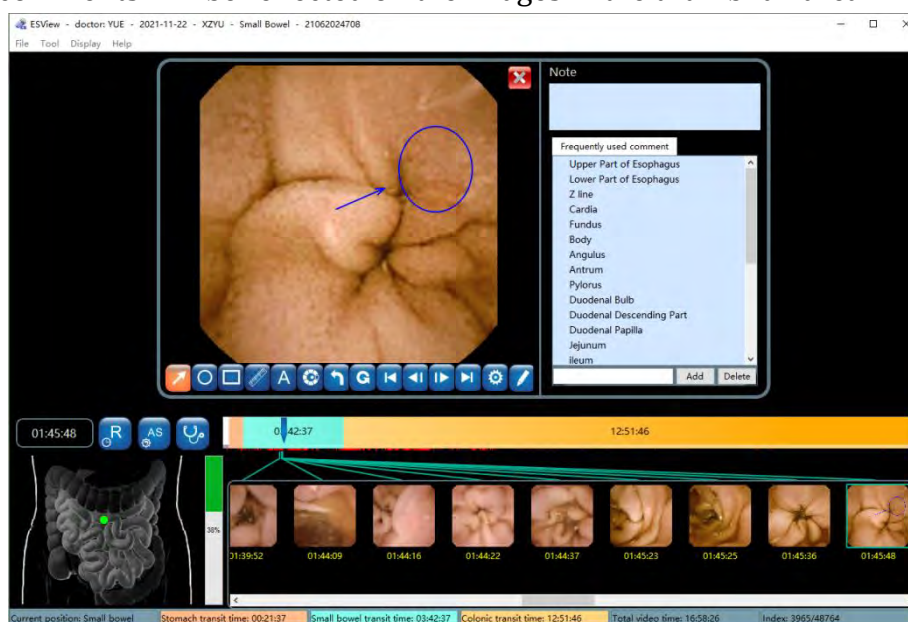
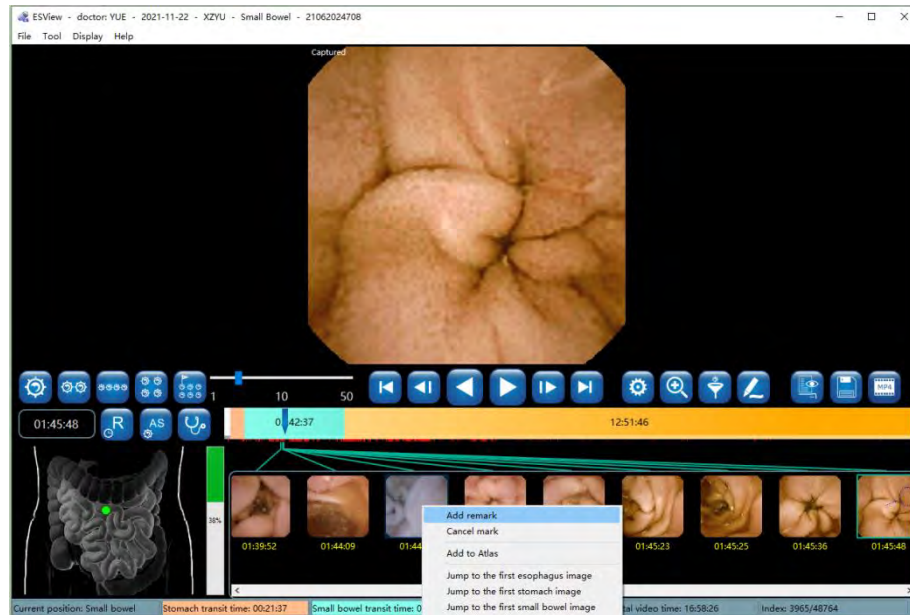

Figure 4-26: Add Remark Interface
Figure 4-29: Add Remark to Thumbnail
4. Click  to access the add comment interface (Figure 4-26). The user can enter textual descriptions to the image into the comment text box in two ways:
click on the image, then select “Add remark” in the pop-up menu (Figure 4-29) to add remark to the corresponding image using the add remark interface shown in Figure 4-26.